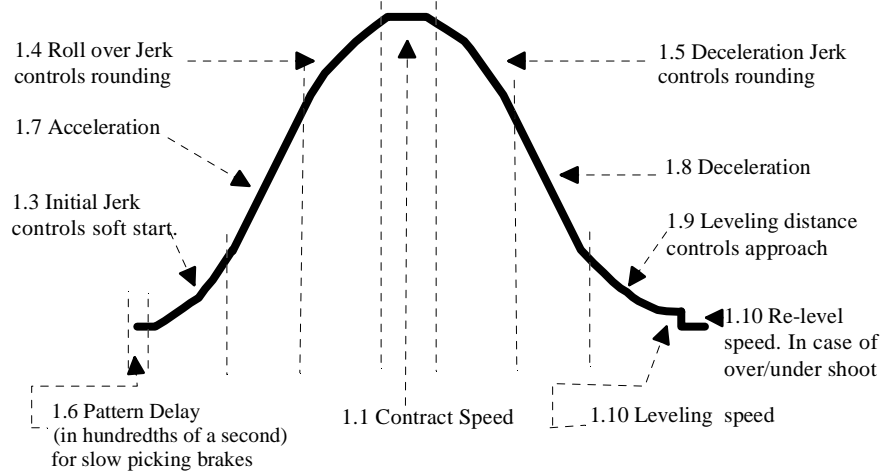

FIGURE I.4.1
The speed profile drawing, Figure I.4.1 below, provides information, at a glance, of the parameters involved for the adjustment of the elevator ride. Please use as reference.
I.4.2. Make a series of test runs: up one floor, then down one floor; then a multiple floor run up, then down. At every run adjust, as necessary, any of the speed curve parameters depicted on figure I.4.1 below. Refer to SDI's manual drawing "SDI SUBMENU 1", at end of SDI manual, for quick reference about "navigating" through program variables, submenu 1. If car vibrates, check encoder mounting and wiring, if correct, reduce C1 parameter RESPONSE of the drive. As soon as car is able to run at top speed, perform step I.4.3 below, and then repeat this step as necessary.